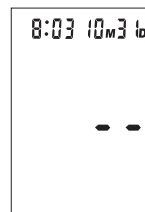

Fig. 3
2. Press and hold down the **M** (MEMORY) button until two horizontal lines flash, *Fig. 3*. This indicates that all measurements have been erased.